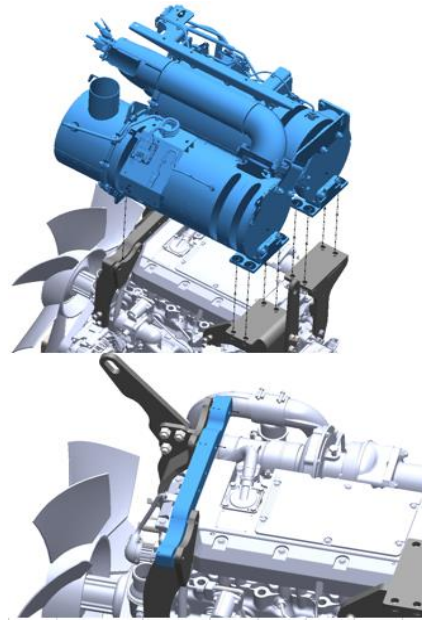
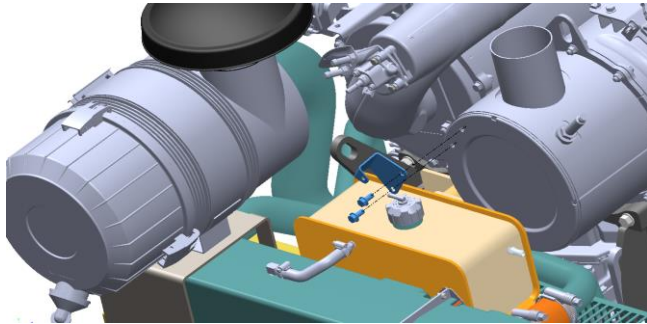

Figure 10
Figure 11
10. Align the ATD unit (21) to assemble onto the front and rear ATD mounting brackets using sliding ATD mounting bracket, fan side brace (6). Slide the ATD mount bracket (6) after the ATD unit is lined up such that the bracket aligns with the holes to fit onto the ATD unit as shown in the figure 10.
11. After alignment, loosely assemble M12X70 bolts (17) and M12 nuts (18) onto the ATD mount brackets around fan side and use M12X40 bolts (16) and M12 nuts (18) on the flywheel side.
13. At first tighten the M12nuts (18) that was installed at step 11 and then tighten the M12 nuts (18) that was loosened at step 11. Now tighten the M12 nuts that were loosened at step 12.
14. Tighten all the M10X25 (12) and M12X70 (17) bolts for secure mounting of ATD unit on the mounting brackets.
15. Uninstall the harness bracket on the ATD unit as shown in the figure 11 and hold on to the bolts that were removed. Install a new bracket (22) using M6X35 (9) bolts and reuse the M8X18 (10) bolts that were removed.